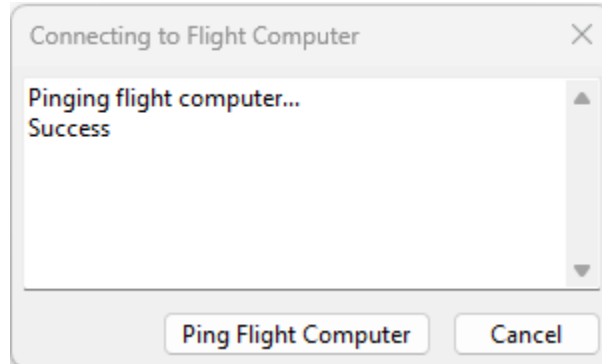

Fig. 3.4: The **ResononGroundStation** Connection Dialog
3. The connection dialog appears with the message *Pinging flight computer*. When the connection is established and the flight computer has transmitted it's system status to the ground station, the dialog will display *Success* and then disappear. See Fig. 3.4.